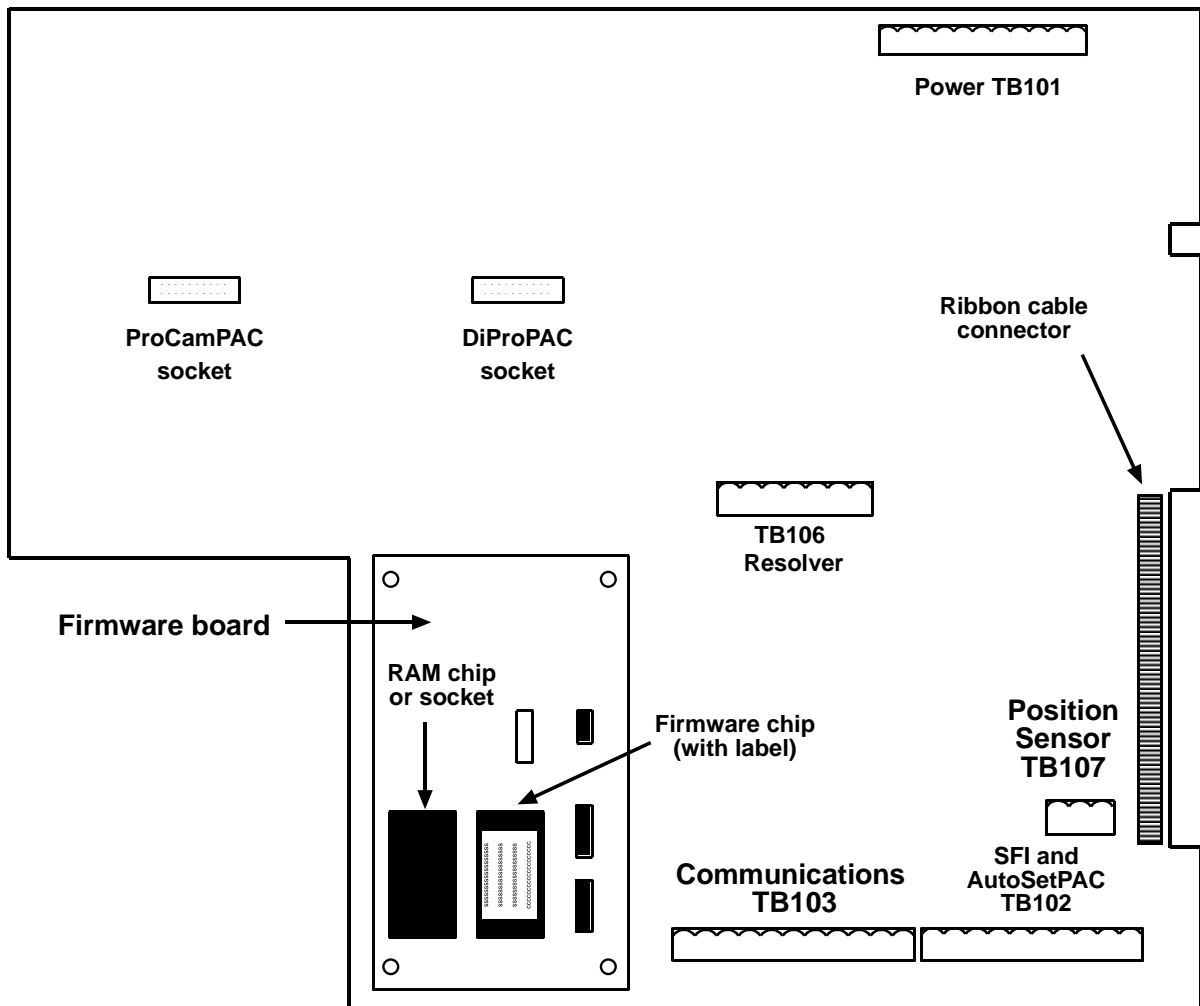

Figure 2-1. SmartPAC Processor Board: Location of Components
2. Making sure that you are grounded, open the SmartPAC enclosure and find the SmartPAC firmware board, which is located in the lower left corner of the SmartPAC processor board (see Figure 2-1, next page).
5. Remove the new SmartPAC firmware board from its package and plug it into the SmartPAC processor board so that the RAM and firmware chips are at the bottom, as shown in Figure 2-1.
2. Locate terminal TB102 on the SmartPAC processor board (see Figure 2-1), TB103 on the SmartPAC 2 processor board. Also find the RS-232 port on your feed. Refer to your feed manual if necessary.